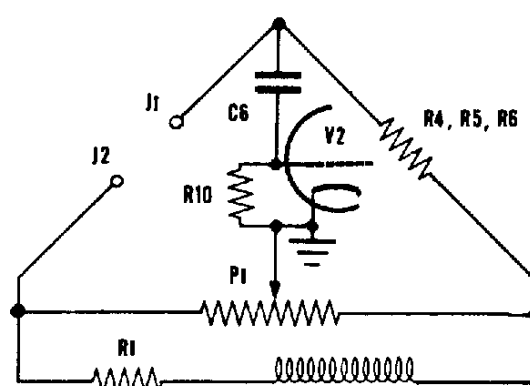
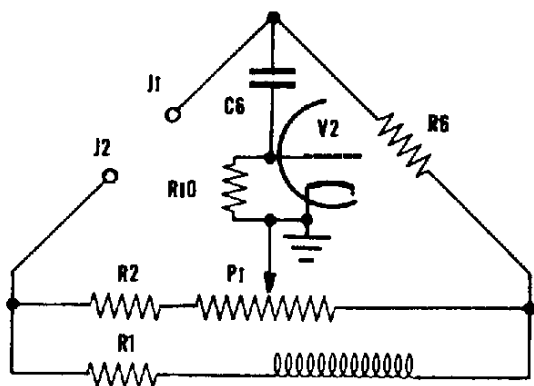

Fig. 4
Fig. 5
- Fig. 4. Bridge circuit for ".5 Ω - 500 Ω " range (R4), "50 Ω - 50,000 Ω " range (R5), and "5000 Ω - 5 M Ω " range (R6).
- Fig. 5. Bridge circuit for "5 M Ω - 500 M Ω " EXPanded range. R2 expands resistance measurement range as compared to circuit of Fig. 4.